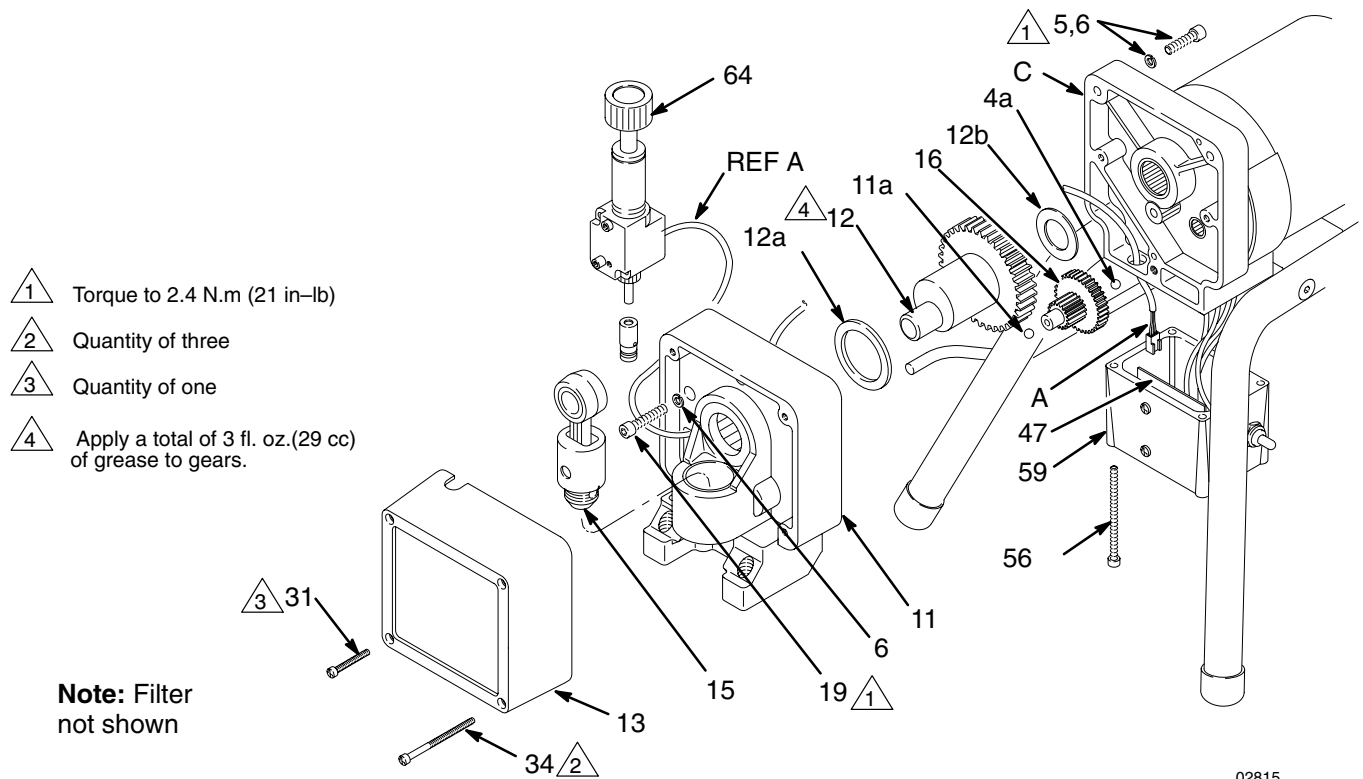

Fig. 24
2. Remove the pressure control (64). See page 26.
3. Turn the displacement pump rod (107) so the pin hole aligns with the bottom drive housing screw (19). See Fig. 23. Remove the three drive housing screws and lockwashers (19,6). Also see Fig. 24 on page 25.
4. Remove the two motor screws (5) and lock washers (6). See Fig. 24 on page 25.
5. Tap the lower rear of the drive housing (11) with a plastic mallet to loosen the motor. Pull the drive housing straight off the motor.